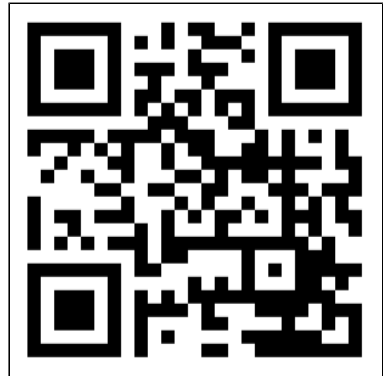

Figure 44.
1. Open the Eurom Smart App manual with the QR code (Figure 44) or go to www.eurom.nl/nl/manuals.